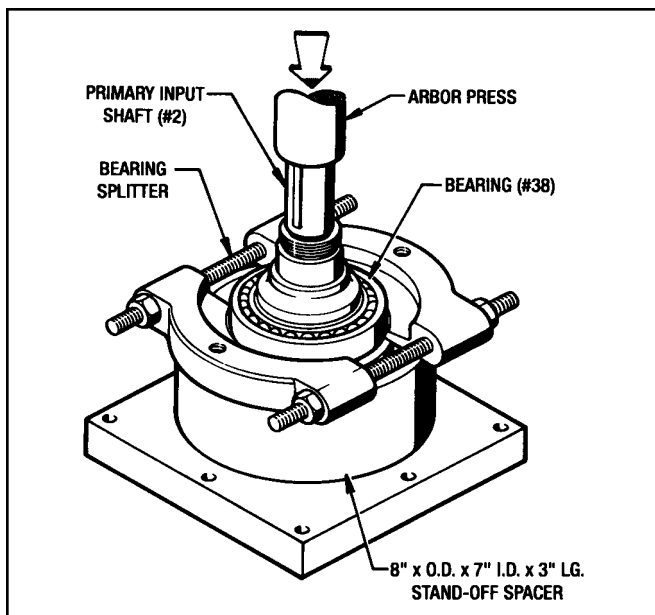

Figure 7.2 - Removing Bearing (#38) From Input Shaft
3. With an Arbor Press and a Bearing Splitter, press the Input Shaft (#2) out of the Bearing (#38). (See Figure 7.2).
7. With an Arbor Press and a Bearing Splitter, press the Input Shaft (#2) out of the Bearing (#38). (See Figure 7.2).